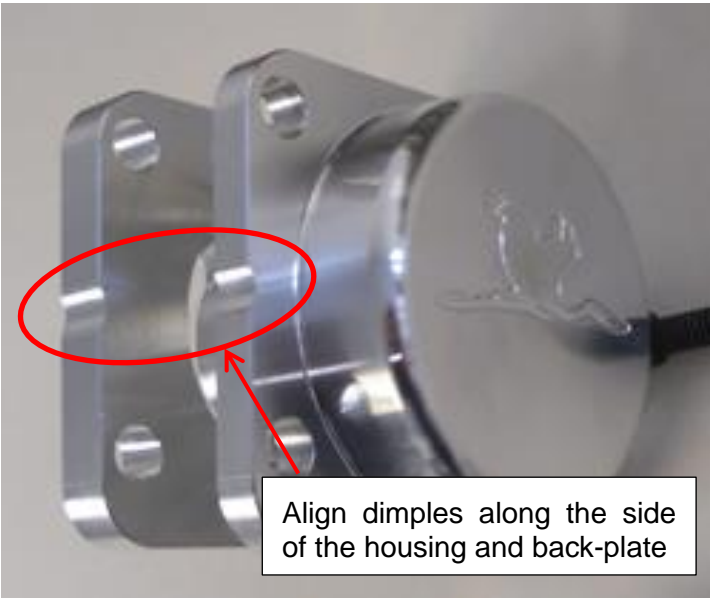

Figure 84 - Oil pump housing and back-plate alignment (six-lobe pump)
- The Housing and back-plate are **directional**. Both parts have a small semicircular dimple along one side which must be aligned with each other and of course the oil pump housing must be installed with the Jabiru bird logo orientated in the correct direction (i.e. not upside down). Figure 84 shows this orientation.